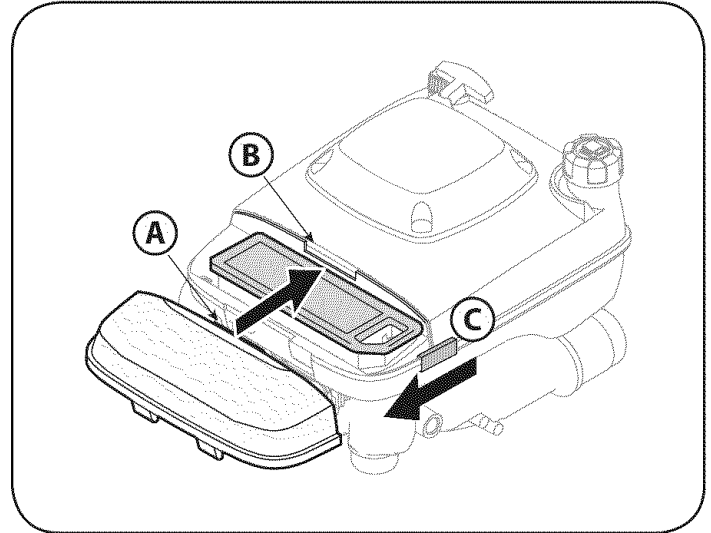

Figure 15
2. Reinstall the air cleaner case on the air cleaner body by first fitting the projection (A) on the edge of the air cleaner case into the slit (B) in the air cleaner body. See Figure 15.
3. Sliding the fasteners (C) toward the air cleaner case, securely fasten together the case and air cleaner body.